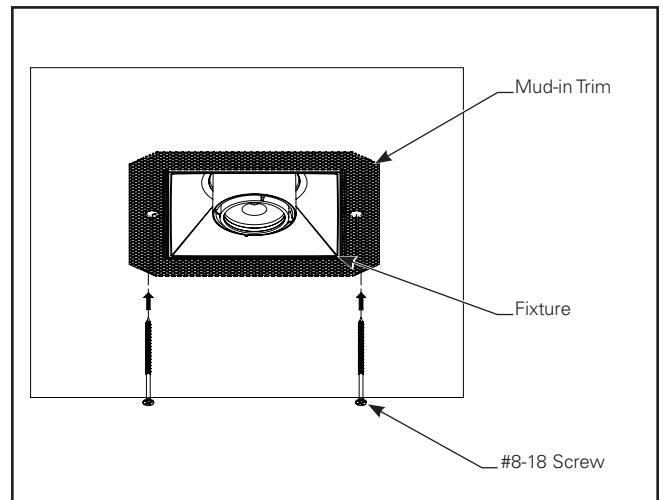

Figure 1.10.
7. Drill pilot holes through mud-in flange along the side of the fixture & insert #8-18 counter sunk screws along mud in trim to the lathing bracket. (Figure 1.10 & 1.11)